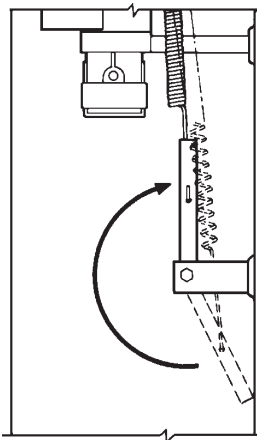

FIGURE 5-35
13. Make certain tension lever is in the **Up** position. See Figure 5-35.